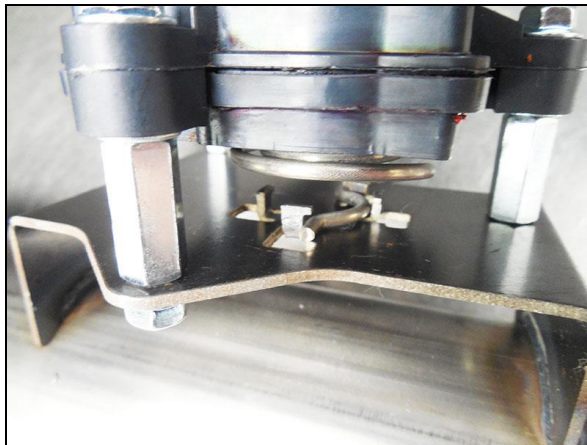

Figure 4
- Check the alignment of the spring coupler after all the bolts have been installed, the drive spring needs to be positioned correctly between the raised tabs allowing 90° of actuator rotation. This will simulate the amount of valve action on the factory AEV assembly. If the drive spring is positioned incorrectly (or missing), the actuator will not rotate through its correct range of motion and the CHECK ENGINE light will illuminate. Reference (Figure 4) for correct drive spring positioning.